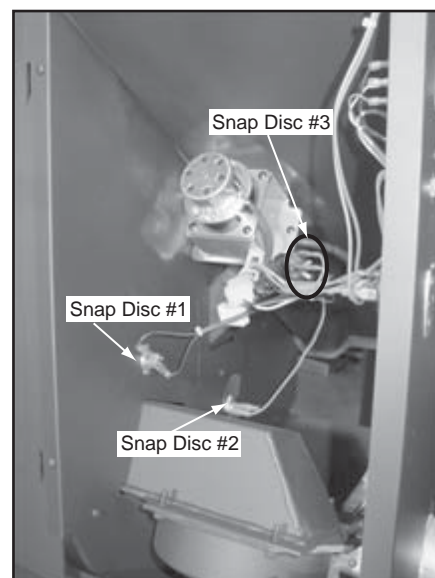

Figure 22.2
2. Remove both upper and lower right side curtains. **Figure 22.2. on page 22.**
3. Snap disc #2 is located on the convection plenum in the center of the appliance above the convection blower. **Figure 22.2.**